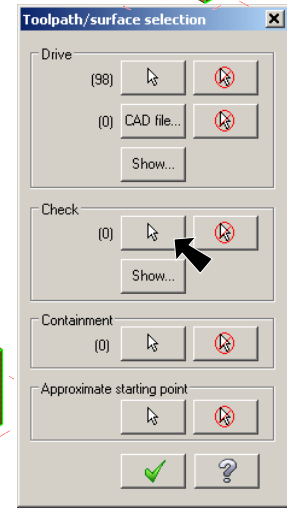

Fig. 6
Step 5. Click **Check Select** button  in the Toolpath/surface selection dialog box, Fig. 6.